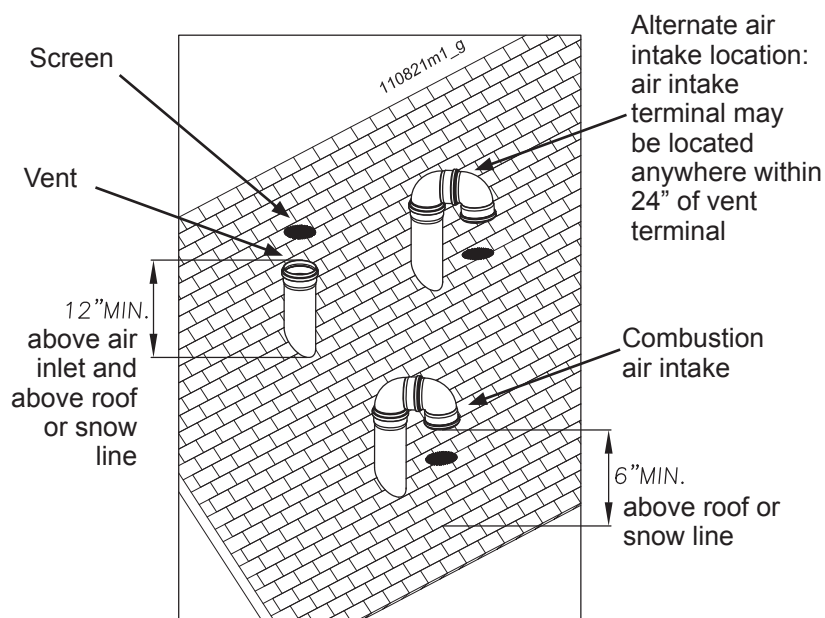

Figure 12-22 Two pipes vertical terminations of air and vent
3. Space the air and vent holes to provide the minimum spacing shown in Figure 12-22 and listed in Section 12.12.1.
1. Prepare the vent termination and the air termination elbow (Figure 12-22) by inserting bird screens.
2. The air piping must terminate in a down-turned 180° return bend as shown in Figure 12-22. Locate the air inlet pipe no further than 2 feet from the center of the vent pipe. This placement avoids recirculation of flue products into the combustion air stream.
3. Maintain the required dimensions of the finished termination piping as shown in Figure 12-22.
4. Do not extend exposed vent pipe outside of building more than shown in Figure 12-22. Condensate could freeze and block vent pipe.